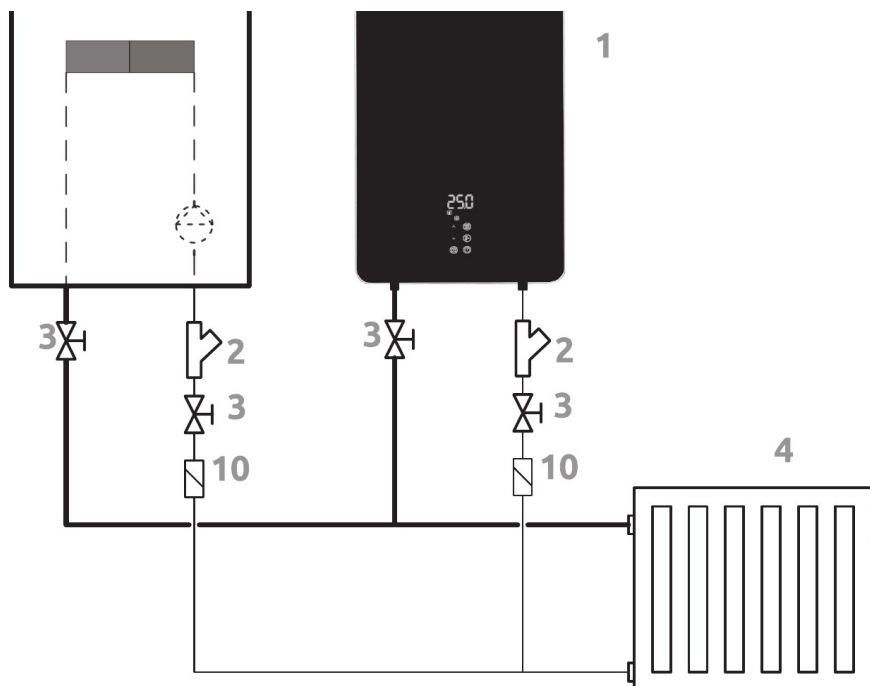

Figure 24 - Wiring diagram of gas and ele
5.8.1 When connecting an ESPRO electric boiler with other heat sources (see Figure 24 - 25), the backup heat source, for example, it can operate at night at a reduced rate of electricity tariff (if the